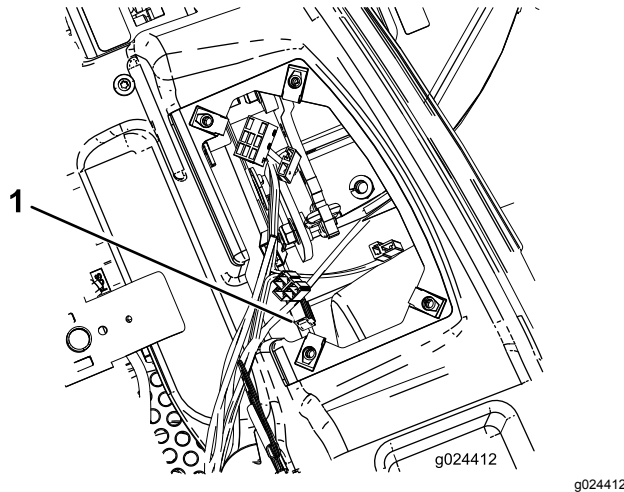

Figure 46
3. Grasp the engine fuse and pull it straight and away from the fuse block (Figure 46).